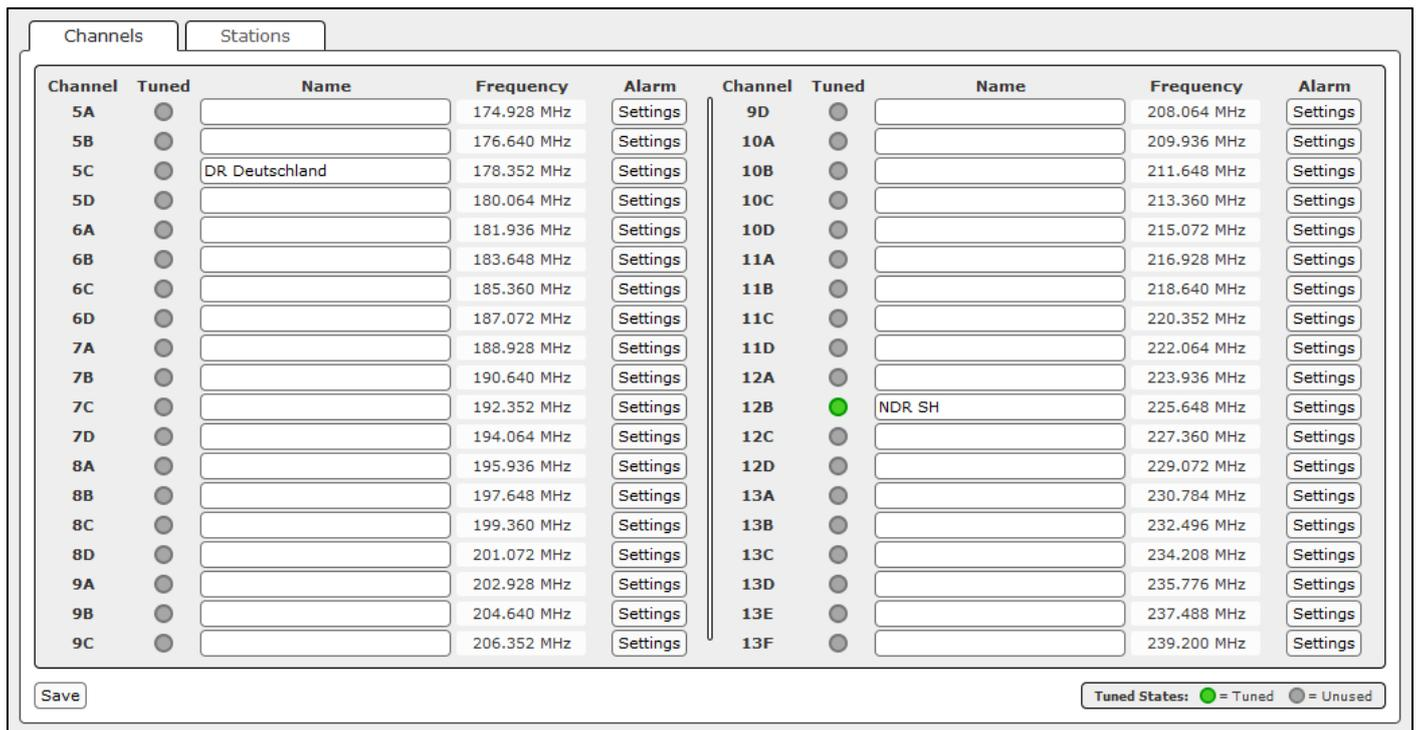

Fig. 18: DAB Settings - Selected channels
- ⇒ New entries for corresponding channels will appear in the "Channels" tab (see Fig. 18).